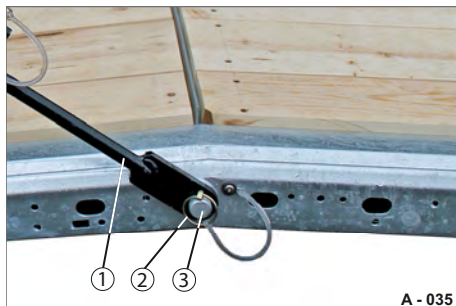

Fig. 46 Removing the securing tensioner
- ▶ Pull out the locking pin (Fig. 46/2).
- ▶ Pull the bottom part of the securing tensioner (Fig. 46/1) off the bolt (Fig. 46/3).